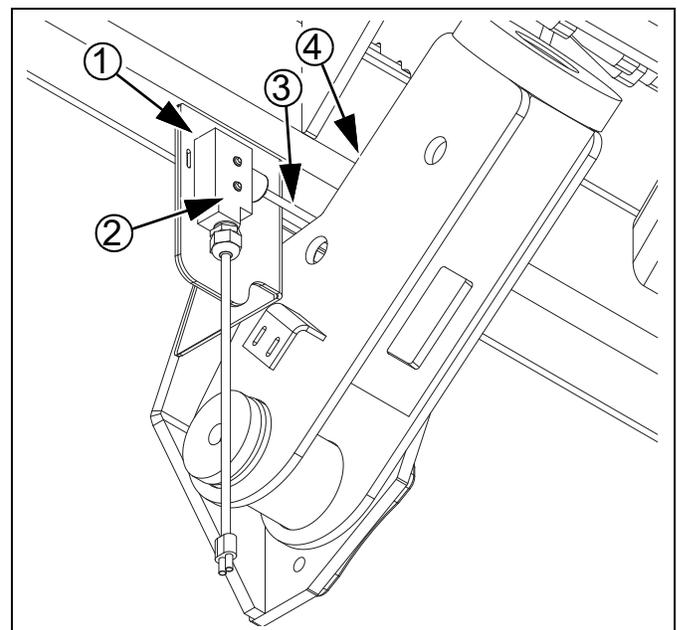

Figure 40
**Refer to Figure 40 (which, for clarity, depicts the switch region without openers or gauge wheel)**